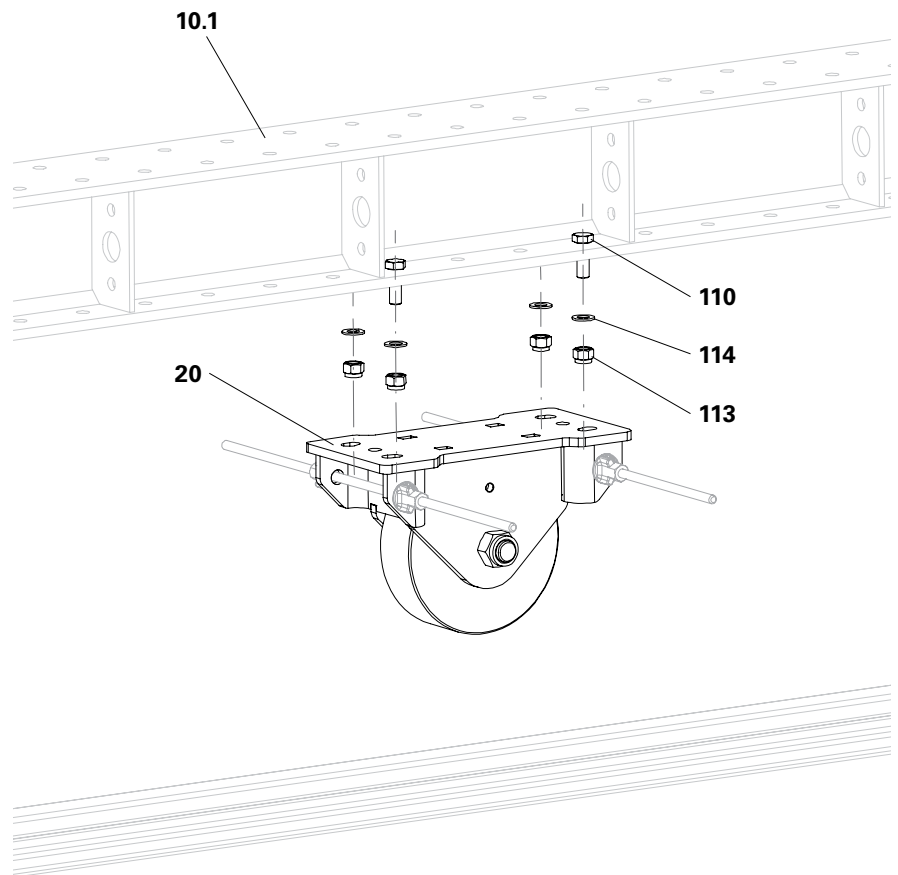

Fig. B2.10
1. Position the Heavy-Duty Wheel (20) on the assembly position.
2. Fix the Heavy Duty Wheel to the Base Beam with bolts M20x70 (110), washers M20 (114) and self-securing nuts M20 (113).
- (Fig. B2.10)